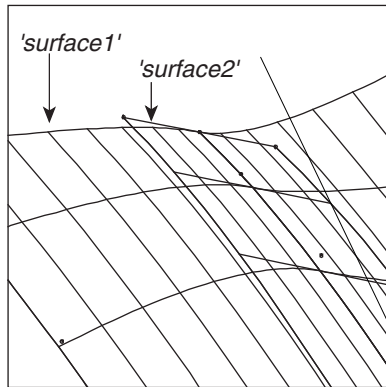

Fig. 19 Lat 3.6, Lon -62.2, Tilt 57.5
- 4 In the Edit dialog, the "**Control curves**" field is active. In the graphic image or in the Available Entities pane, add '**relcvlower**'; **OK** to the Edit dialog (Fig. 19). (This surface started as a ruled surface because it was a B-spline Lofted Surface with two control curves. In general, a B-spline Lofted Surface with more than two control curves is not ruled. In this case, however, because of the way the three parent curves are related, this is still a ruled surface). Both 'surface1' and 'surface3' are tangent to this surface ('surface2'). This join is G1 — continuous slope.